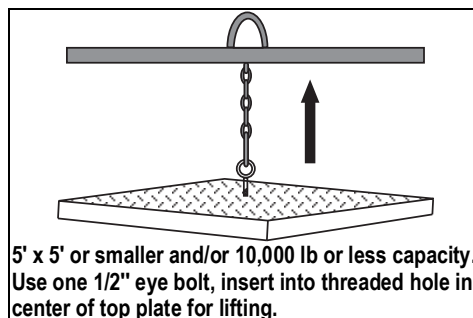

Figure 2-1. Proper Lifting Technique
**Lift the scale only with a properly designed spreader bar as shown in Figure 2-1. Lifting force must be vertical to avoid bending the eye bolts.**